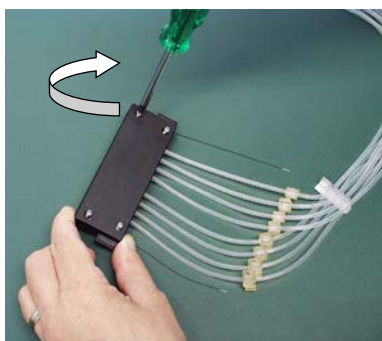

Figure 5–33. Replacing the lower part cover of the dispensing cassette
6. Once the lower part of the dispensing cassette has been fitted, place the remaining parts belonging to the upper part of the dispensing cassette onto the laboratory table (Figure 5–34).